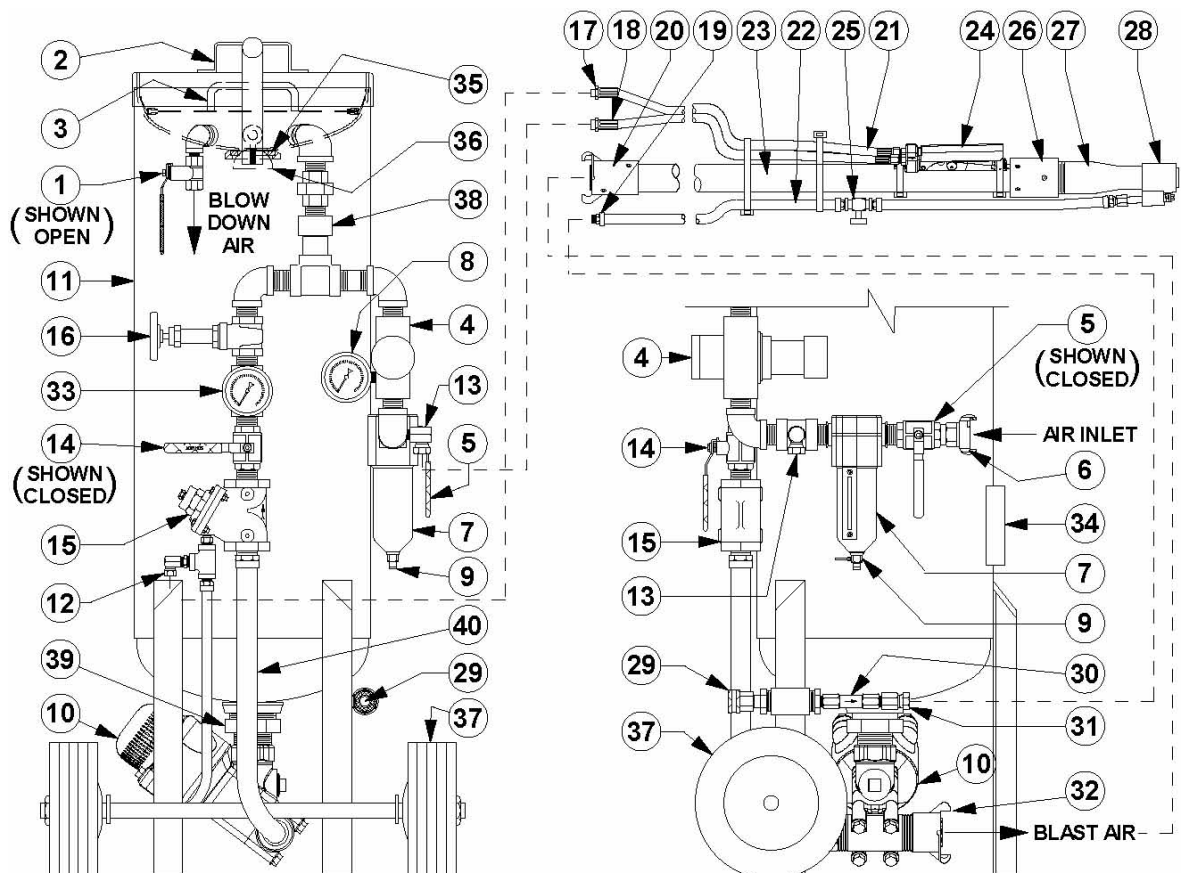

Figure 6.1 – Typical Mini Abrasive Blaster
6.1 Mini Abrasive Blaster Setup Procedure (see Figure 6.1)
- 6.1.11. Connect the twinline hose male fittings (#17 & #18) to the mating swivel connectors (#12 & #13) on the Mini abrasive blaster piping. See Figure 6.1.